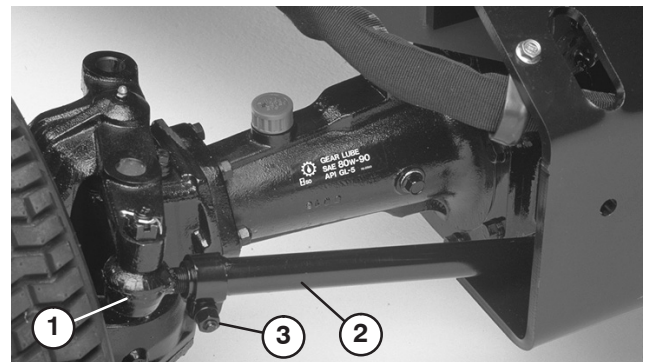

Figure 65
2. Remove cotter pin and nut securing one tie rod ball joint to mounting bracket on axle and disconnect ball joint from axle (Fig. 65).
- Loosen screw on tie rod clamp (Fig. 65). Rotate ball joint in or out to adjust length of tie rod.